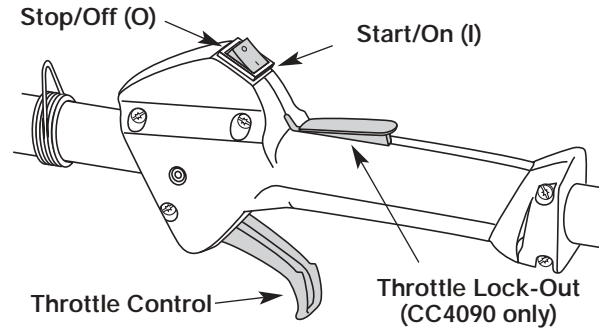

Fig. 20
NOTE: There is no need to turn the unit on. The On/Off Stop Control is in the ON (I) position at all times (Fig. 20).